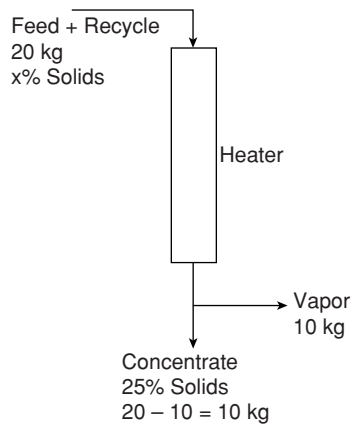

Figure 3.12 Diagram of material balance around the heater of a falling film evaporator.
- (c) A material balance can be made around the part of the system where the vapor separates from the heated fluid as shown in Fig. 3.12.